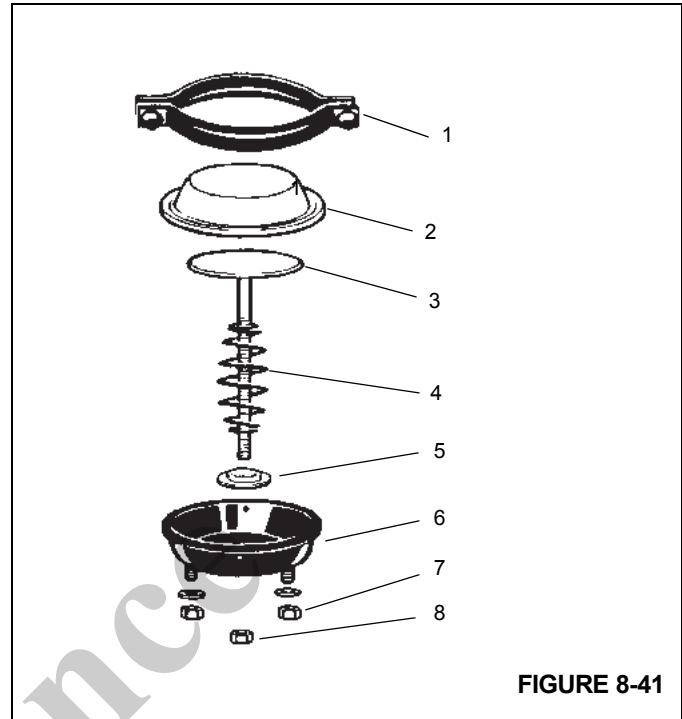

FIGURE 8-41
1. Remove the clamp securing the service brake chamber to the spring brake chamber (see Figure 8-41).
3. Position the diaphragm over the push rod (see Figure 8-41).